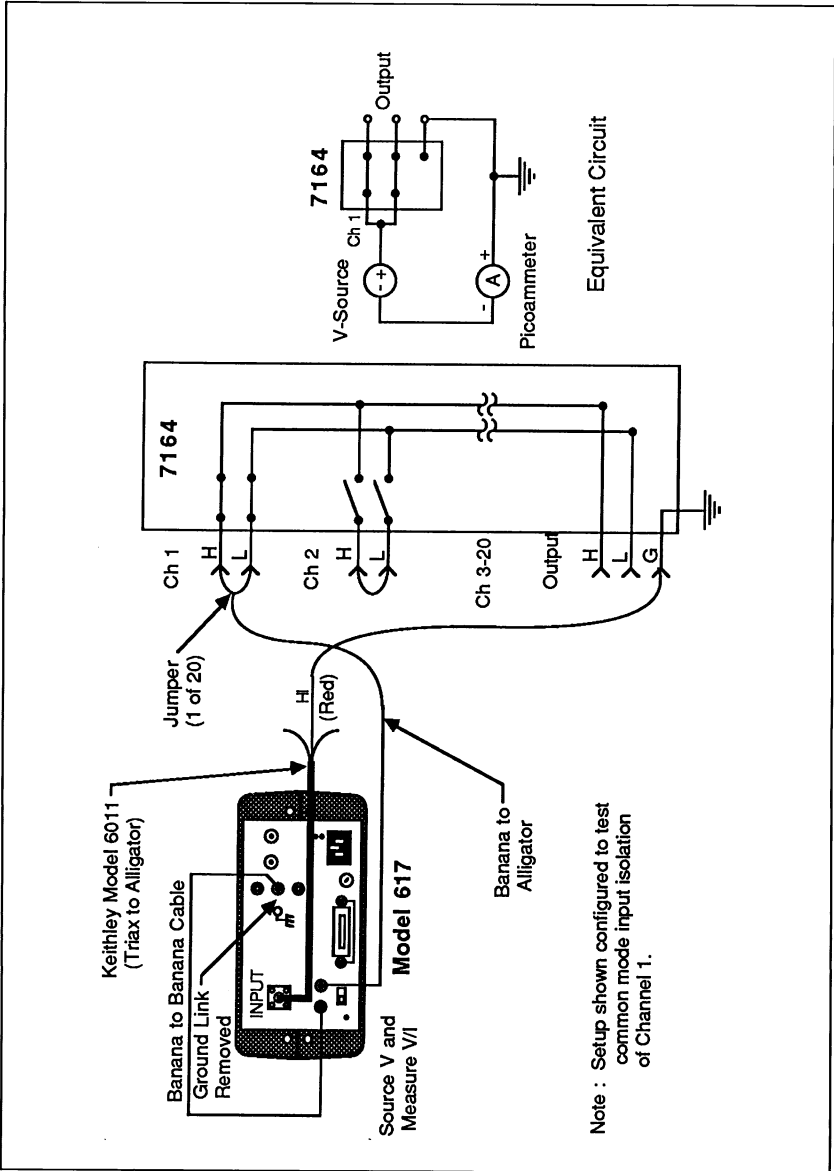

Figure 4-4. Input Isolation (Common Mode)
Referring to Figure 4-4, perform the following procedure to check common mode input isolation:
2. Using Figure 4-3 to identify scanner card terminals, connect the Model 617 to the scanner card as shown in Figure 4-4.